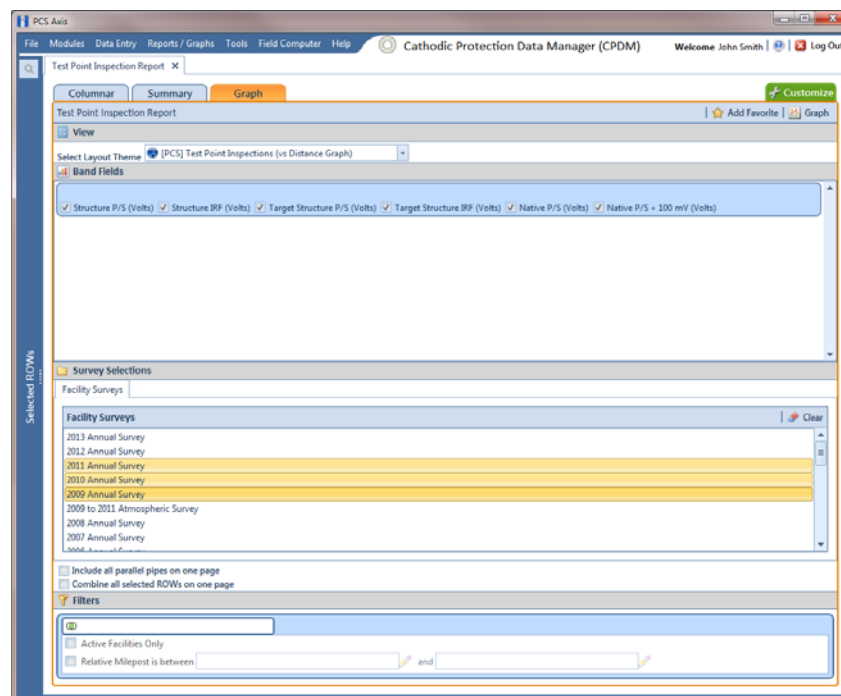

Figure 14-26. Test Point Inspection Graph Report
- 3 Click the **Graph** tab  to open a property settings window. For example, the next figure shows the property settings window for the *Test Point Inspection* graph (Figure 14-26, page 561).